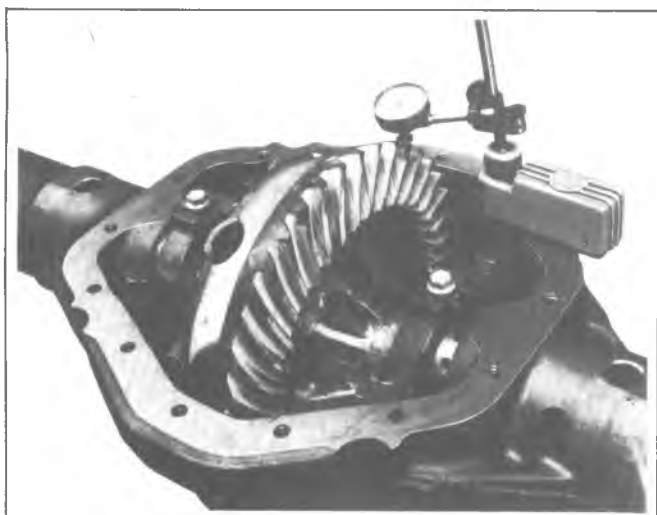

Fig. 6E--Measuring Backlash
9. Mount a dial indicator on the housing and measure the backlash between the ring gear and pinion. Backlash should be from .003" to .012" with .005" to .008" preferred. Refer to figure 6E.